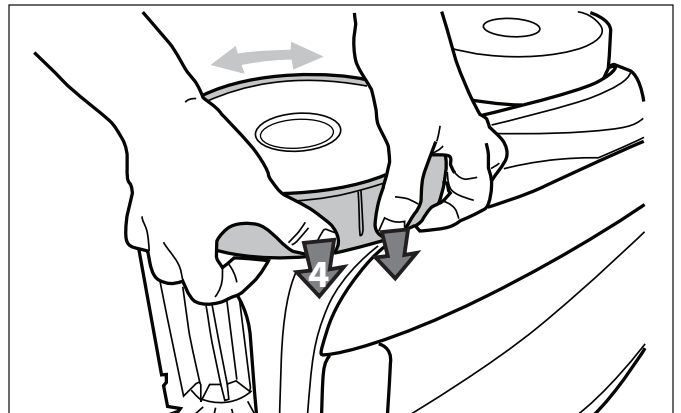

Figure 37. Push the Tire into Place on the Wheel
6. Push and position the rib of the inner side of the tire in the groove of the wheel. Refer to Figure 37. If needed, turn the wheel gently to help with installation.